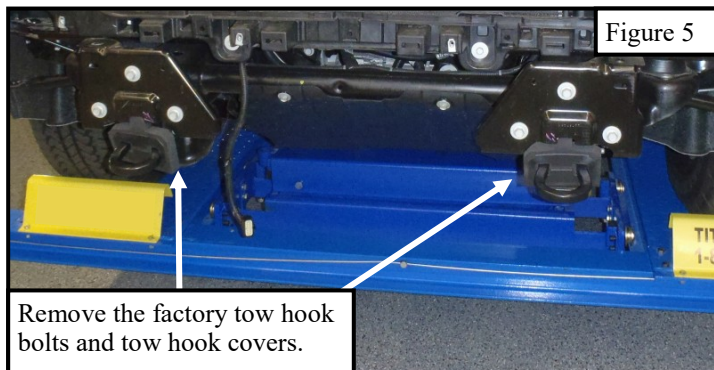

Figure 5
- 5. *For models with factory tow hooks:* Remove the tow hook bolts and the foam tow hook covers. See Figures 5 and 6.